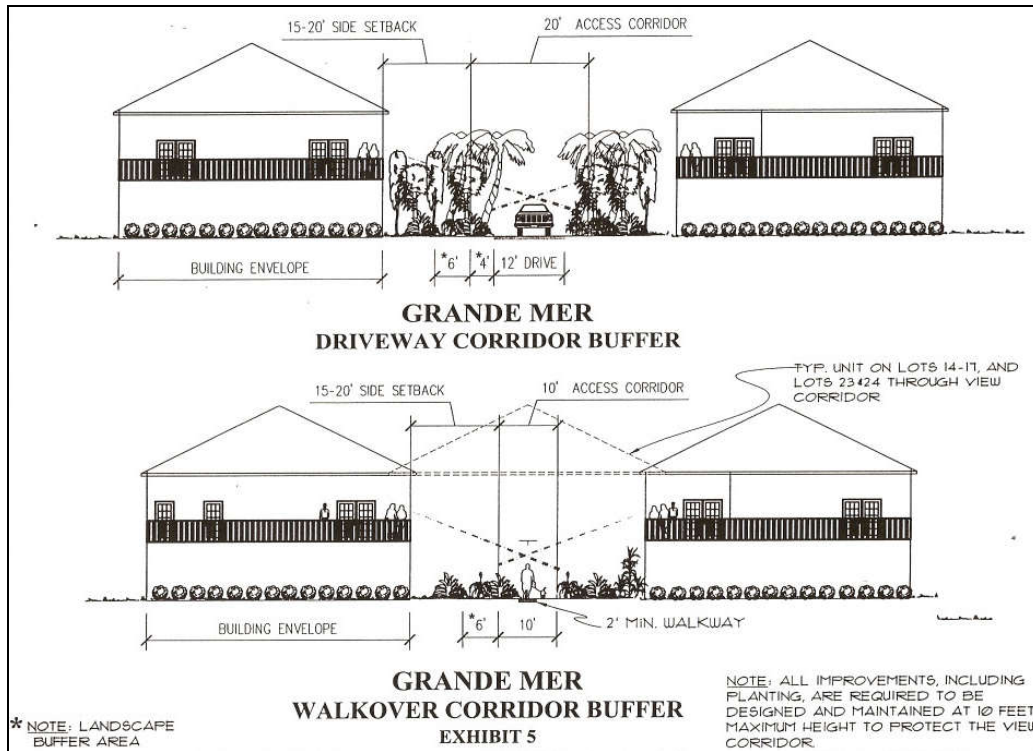

FIGURE 4
A continuous visual buffer shall be provided adjacent to walkway corridors. The buffer shall consist of plants, mounds, walls or fences so that the privacy of the lots is maintained. Landscape and mounding buffers shall be a minimum of six (6') feet in height and six (6') feet in depth. New plantings, preserved existing vegetation, or a combination of both can serve to fulfill the buffer requirement. A fence or wall buffer shall be sized to provide a similar degree of privacy and shall conform to the "Fences and Walls" section of this manual. FIGURE 4 illustrates a walkway corridor buffer. If the fence or wall option is used, some landscape shall be incorporated into the design.
A landscape buffer shall be provided within the driveway corridors and shall consist of a four (4) foot evergreen landscape buffer on each side of the driveway. FIGURE 4 illustrates a driveway corridor buffer.
A visual buffer shall be provided adjacent to driveway corridors. The buffer shall consist of plants, mounds, walls or fences along the driveway corridor, stopping at the front and rear yard setbacks. Landscape evergreen buffers shall be a minimum of four (4') feet in height and six (6') in depth. New plantings, preserved existing vegetation, or a combination of both can serve to fulfill the buffer requirement. A fence or wall buffer shall be sized to provide a similar degree of privacy and shall conform to the "Fences and Walls" section of this manual. If the fence or wall option is used, some landscape shall be incorporated into the design. FIGURE 4 illustrates a driveway corridor buffer.